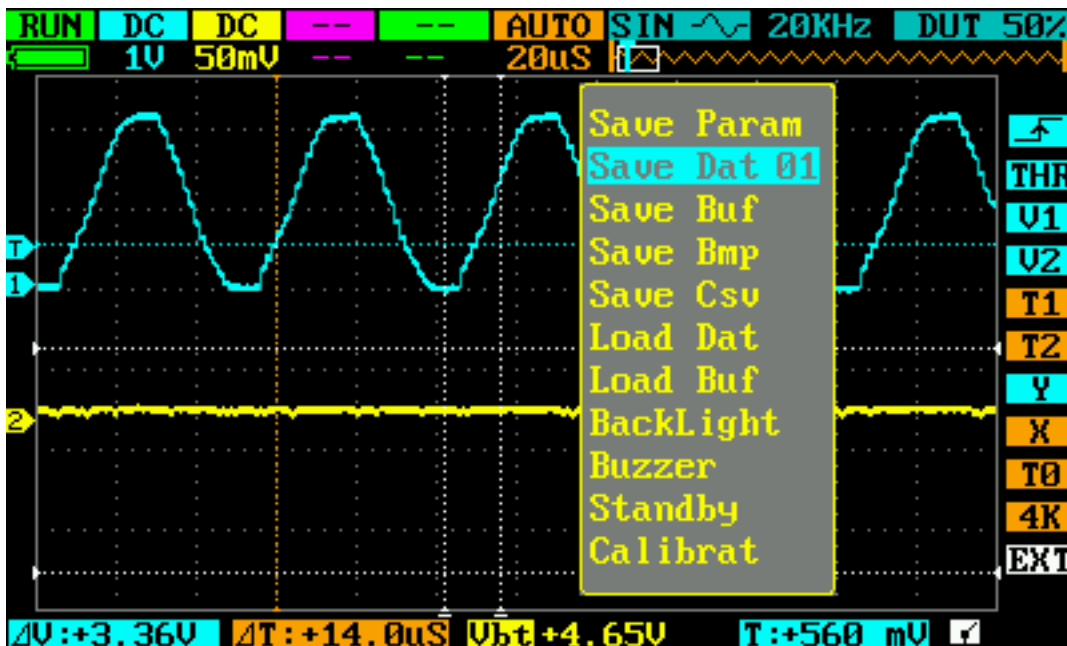

Figure 4.1
- Input standard signal to CH_A, press (■), choose Save Dat 01 to save waveform, as in Figure 4.1: